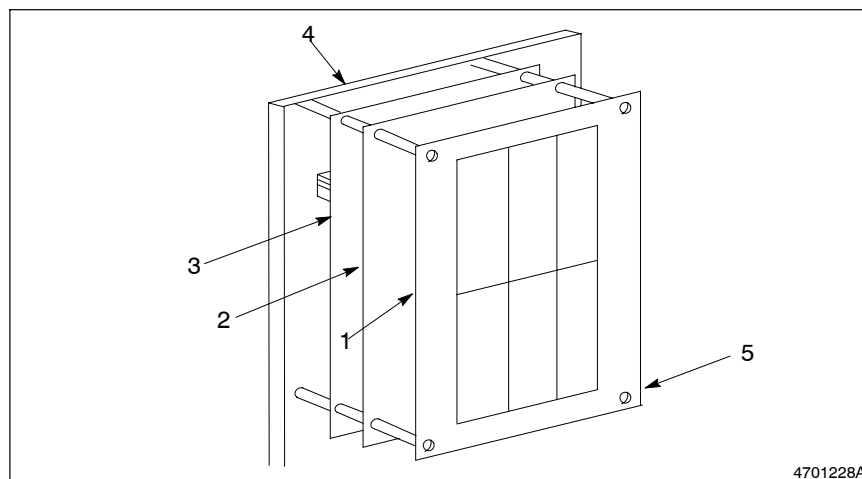

Fig. 3-3 LCU Organization
1. Check that the °F/°C slide switch (3) (See Figure 3-3) is set for your application (UP = °F, DOWN = °C).